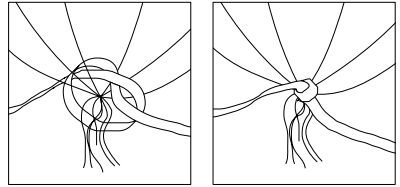

Figure 22
1. Gently pull up on the shock cord to remove any slack. Pass the shock cord through the parachute shroud lines (Figure 22). Tie and knot the shock cord to the shroud lines about 1-1/2" from the top of the tube.